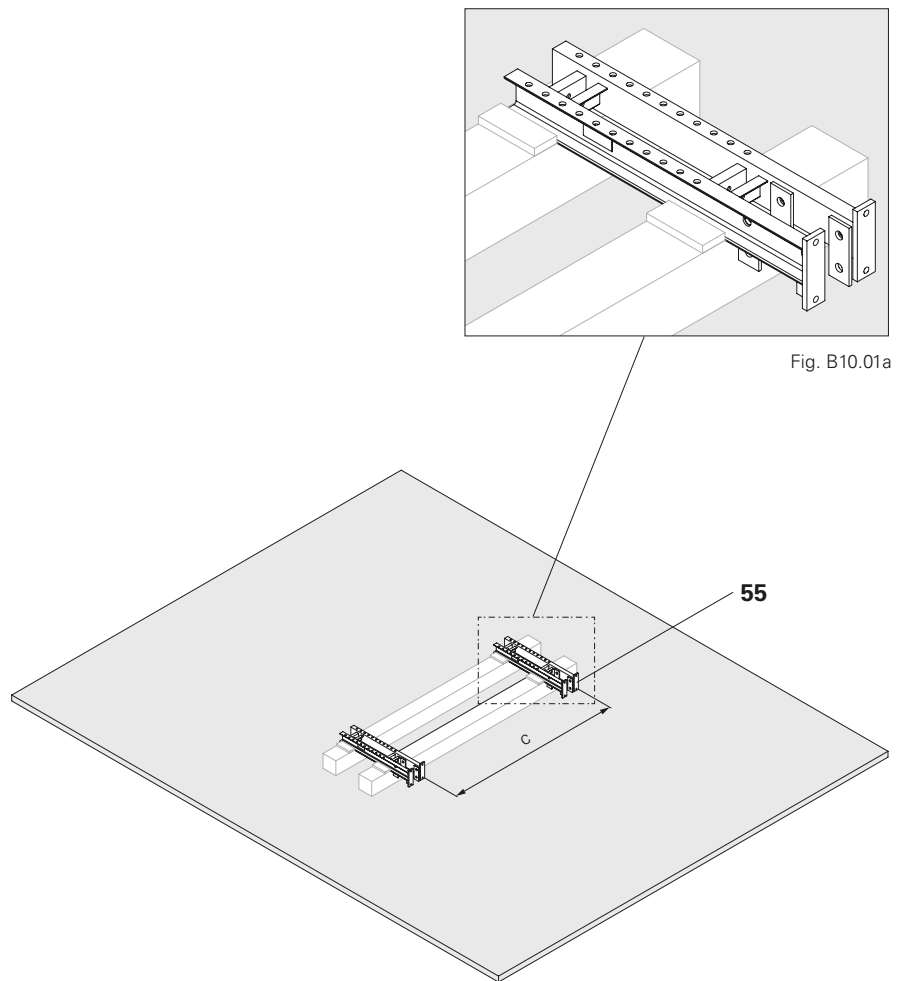

Fig. B10.01
1. Set the Finishing Platform Beam 1365 ACS-G (**55**) down on the squared timbers while observing the console bracket spacing. (Fig. B10.01 + B10.01a)